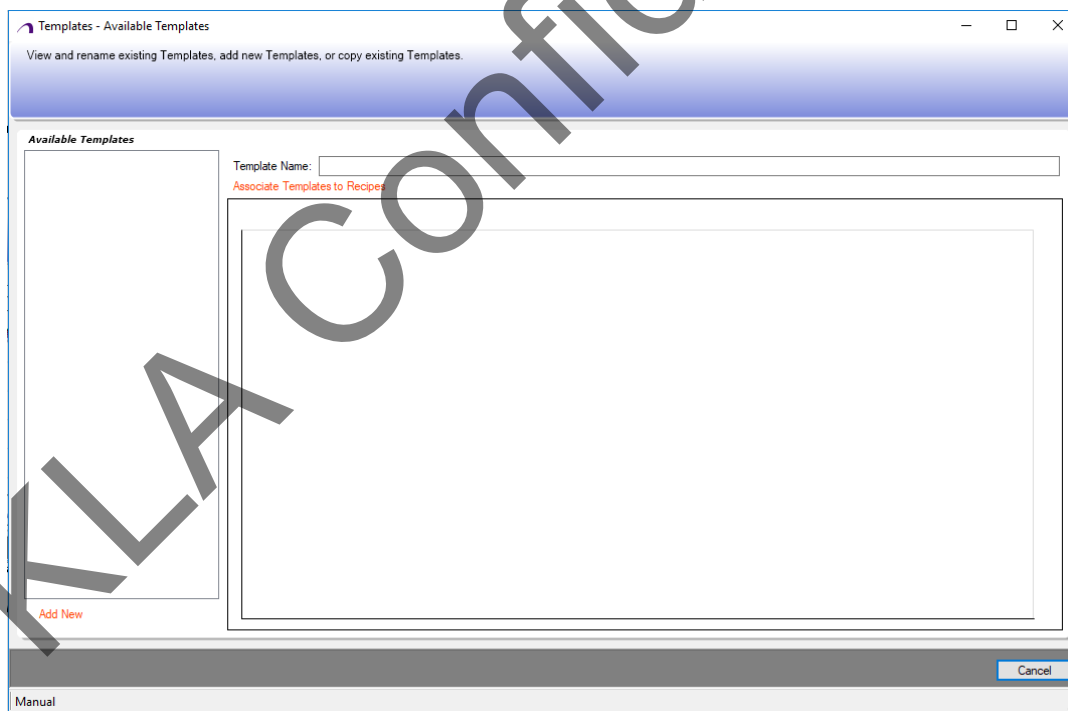

Figure 6-1 Templates - Available Templates window
1. Click **Create a Template** on the **SAT** launcher UI. You can see the **Create a Template** window opens, as shown in Figure 6-1.